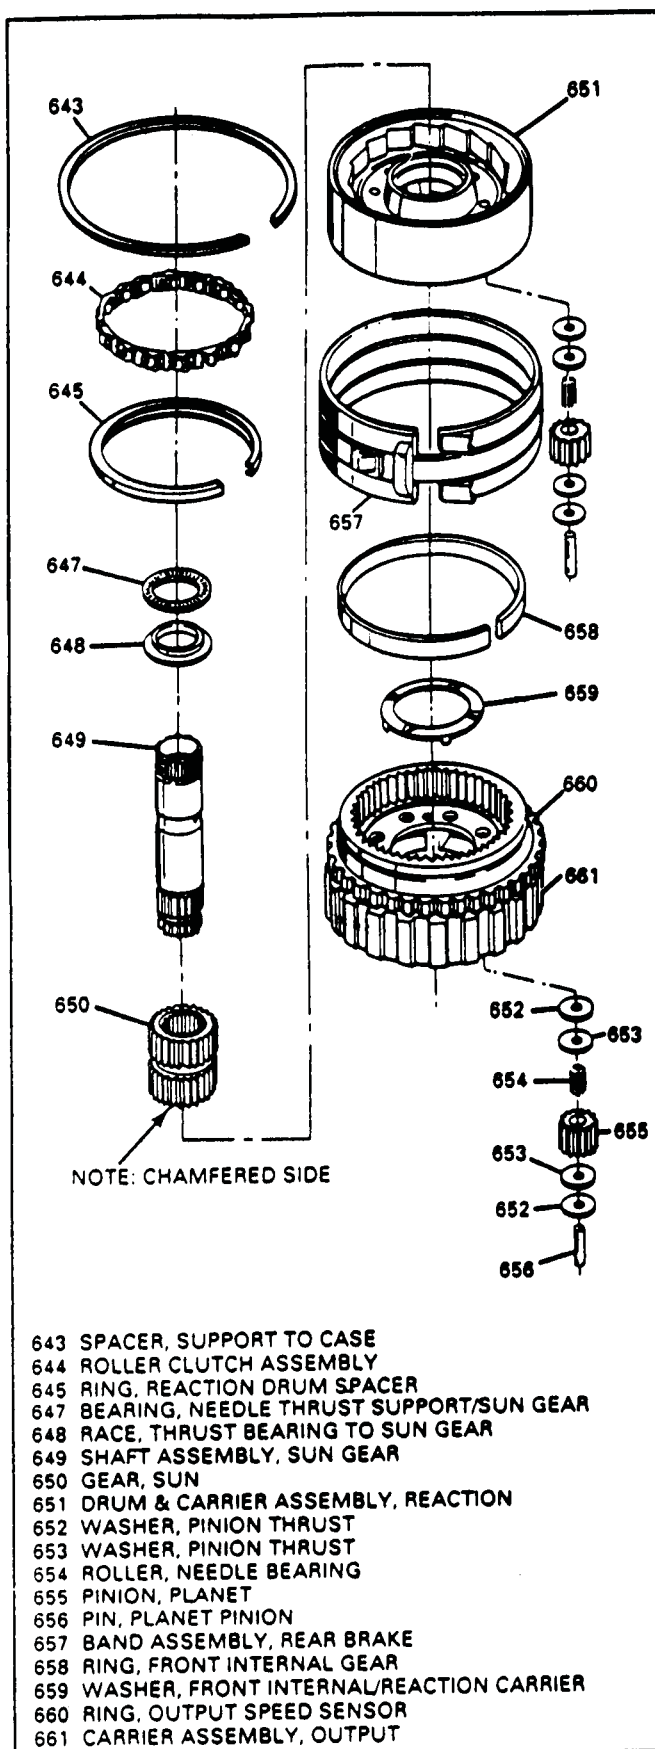

Figure 64
7. Install thrust washer (659) onto output carrier with the tabs in pockets, and retain with petrolatum. (See Figure 64).
9. Install reaction carrier assembly onto output carrier by rotating into place. (See Figure 64).
10. Install sun gear into reaction carrier with the chamfered inner diameter facing down (See Figure 64).
11. Install sun gear shaft with the long splined end first and engage in the sun gear (See Figure 64).
12. Install longer lipped race (648) onto sun gear shaft with the lip facing up. (See Figure 64).
13. Install needle thrust bearing (647) on longer lipped race (See Figure 64).
14. With the center support on work bench install race (646) on center support and retain with petrolatum.
15. Install spacer ring (645) into reaction carrier assembly, if removed. (See Figure 64).